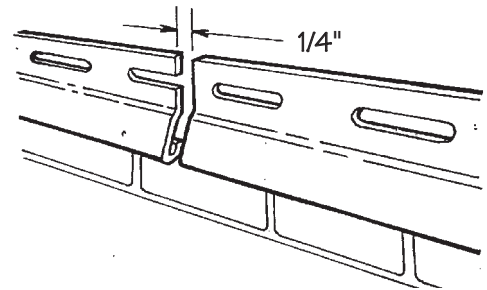

Figure 26.
- Keep the ends of starter strips at least 1/4" apart to allow for expansion (Fig. 26).